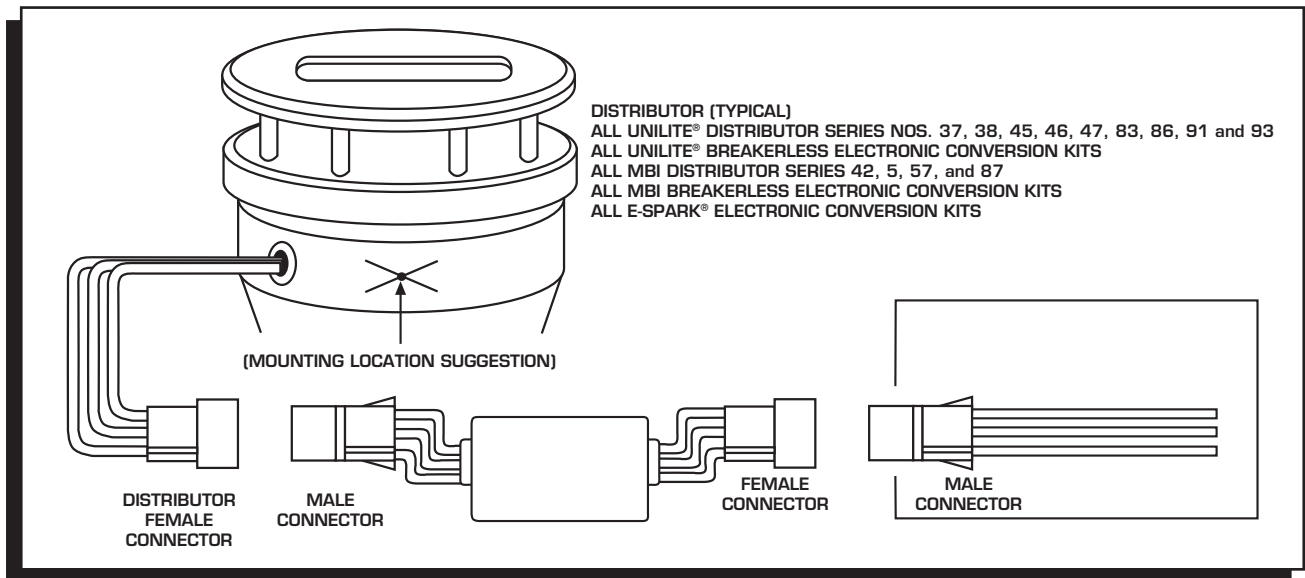

Figure 1
- Step 2:** Connect the distributor female connector to the Circuit Guard male connector. See Figure 1.
- Step 3:** Connect the Circuit Guard female connector to the distributor wire harness male connector. See Figure 1.